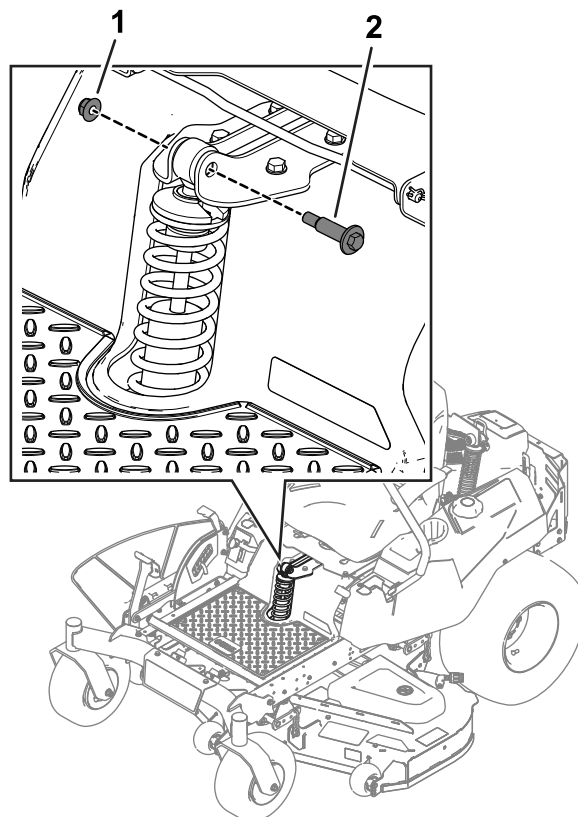

Figure 3
- A. Remove the bolt and nut from the front shock assembly (Figure 3); retain the hardware.
- B. Install the previously removed bolt and nut to the front shock; refer to Figure 3.